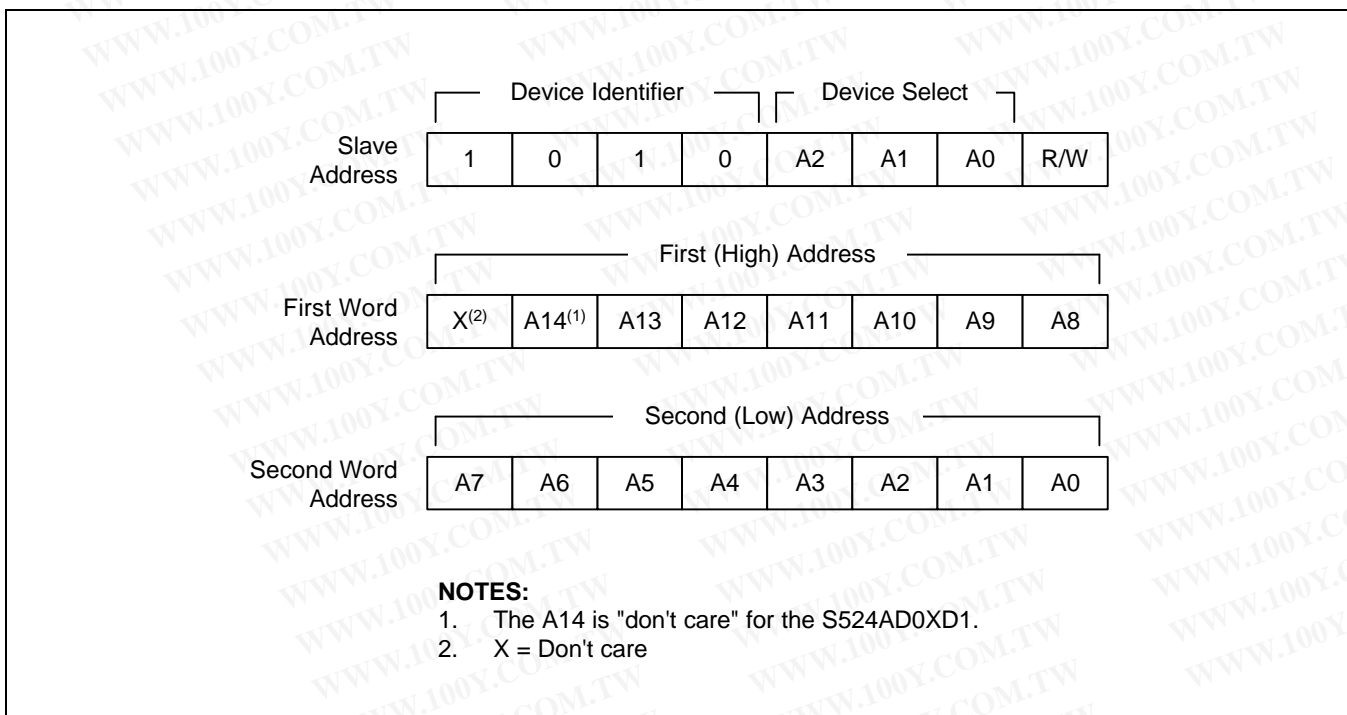

Figure 5-9. Device Address
- Slave Address:** After the master initiates a start condition, it must output the address of the device to be accessed. The most significant four bits of the slave address are called the “device identifier.” The identifier for the S524AD0XD1/D0XF1 is “1010B”. The next three bits comprise the address of a specific device. The device address is defined by the state of the A0, A1, and A2 pins. Using this addressing scheme, you can cascade up to eight S524AD0XD1/D0XF1s on the bus (see Figure 5-9 below).